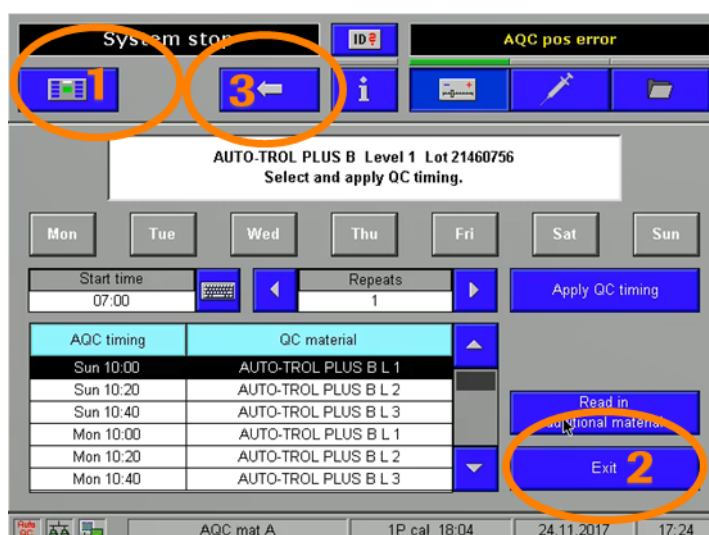
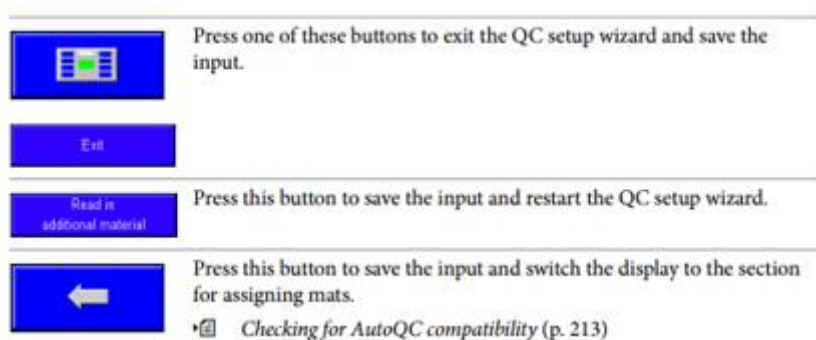

Fig. 1: Last “AutoQC timing” window in the QC setup wizard workflow.
Fig. 2: Excerpt from IFU for the **cobas b 221** (V17.0, chapter “Quality control”).
The QC setup wizard consists of a sequence of 5 windows that comprise the workflow. In the last of these 5 windows, the “AutoQC timing,” the operator can use the buttons “Return to Setup” (1) and “Exit” (2) (Fig. 1) to exit the QC setup Wizard and save the input as described in the Instructions For Use (IFU) (V17.0, chapter “Quality control”) (Fig. 2).
The “Back” button (3) (Fig. 1) allows the operator to navigate back through the QC setup wizard workflow. When the operator uses the “Back” button 5 times consecutively to navigate backwards through the workflow and finally closes the QC setup wizard, the software responsible for starting scheduled AutoQC measurements (scheduler) is not activated. Consequently, from this time on, no more automatic QC measurements will be performed. This situation can only be detected by reviewing
Until the software patch is available and has been installed, the following workaround must be used: Do not use the "Back" button to exit the QC setup wizard workflow. Instead, use the "Return to Setup" (1) and "Exit" (2) (Fig. 1) buttons to ensure execution of scheduled automatic QC measurements. Whenever the QC setup wizard workflow has been used on an instrument, check whether the next scheduled AutoQC measurement is performed to ensure the AutoQC scheduler is working as expected.